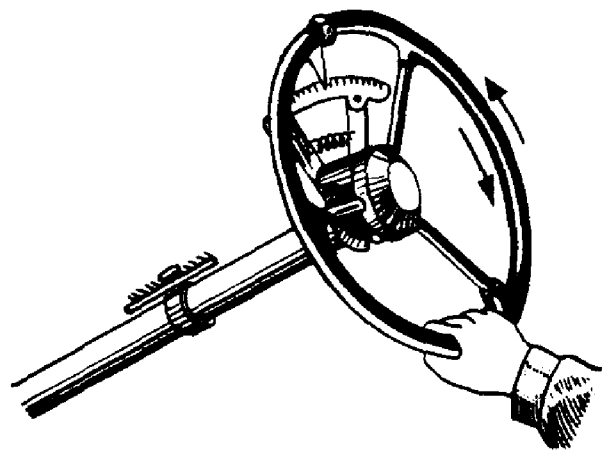

FIG.13. CHECKING STEERING WHEEL
31. Check the steering wheel for angular play (Fig.13) with the steering booster pump operating and the front wheels in the straight-ahead position. If the play exceed 15 degrees and there is no appreciable lost motion in the steering rod joints, adjust the steering gear, following Process Chart No.4.